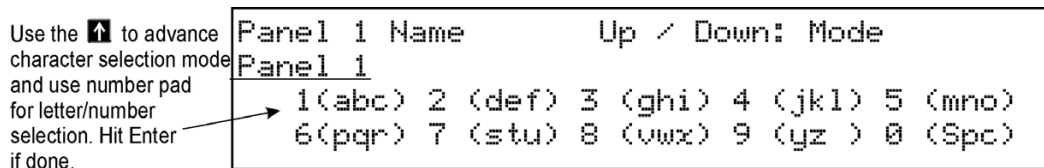

Figure 6-1 Edit Panel Name
programmed into the network will appear as a “member.” Any panel that is connected to the network but not programmed into the network will appear as a “guest.” You can add guest panels to the network by changing their status to member in this menu. Panels showing OK are currently responding on the network. Panels not showing OK have either been removed or are not responding due to networking problems. See Section Figure 6.1 on page 1 for Network Diagnostics.
4. Press 1 to Edit Panel Name. Choose Panel to edit. See Figure 6-1.